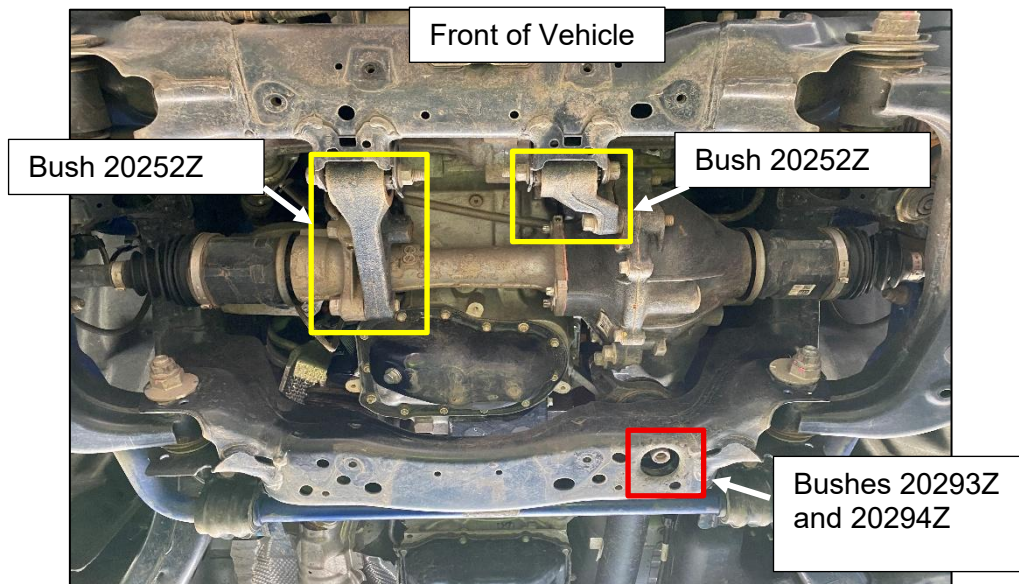

Figure 1: Differential Bracket Location
2. Remove the skid plate. Locate the **3** differential brackets (See Figure 1). Support the differential and remove the brackets and replace bushes one at a time. To help with removal and reinstallation the differential may need to be raised or lowered but ensure it remains supported.